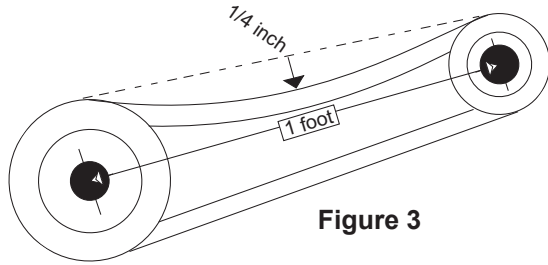

Figure 3
2. Slide the motor plate back until proper tension is reached. For proper tension, a deflection of approximately 1/4" per foot of center distance should be obtained by firmly pressing the belt. Refer to Figure 3.